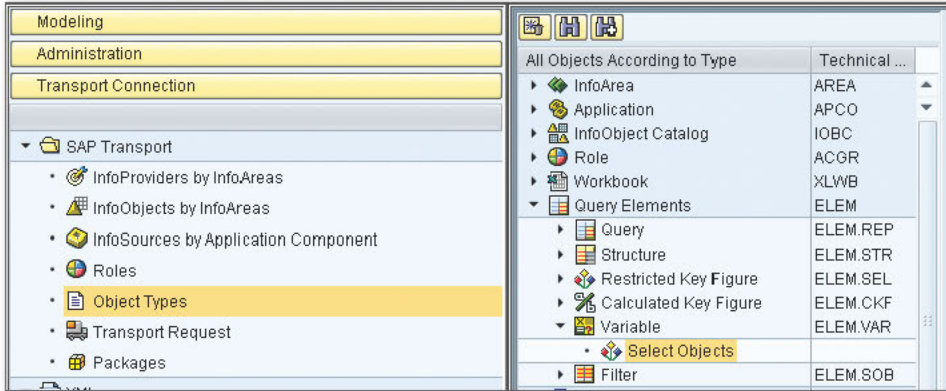

Figure 1 Selection of BEx Variable OI_DAYIN
1. In the resulting screen, select TRANSPORT CONNECTION (see the left pane in Figure 1) and then select VARIABLE/SELECT OBJECT. In this example, we've chosen object OI_DAYIN as the variable for which we'd like to return the list.